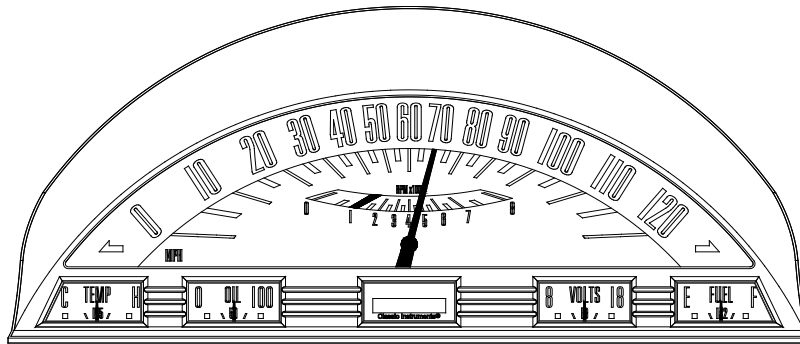

FIG. 1
- 2) The tachometer will point to 1000 RPM and the speedometer will point at 70MPH once you have successfully entered the setup mode. **Fig. 1**